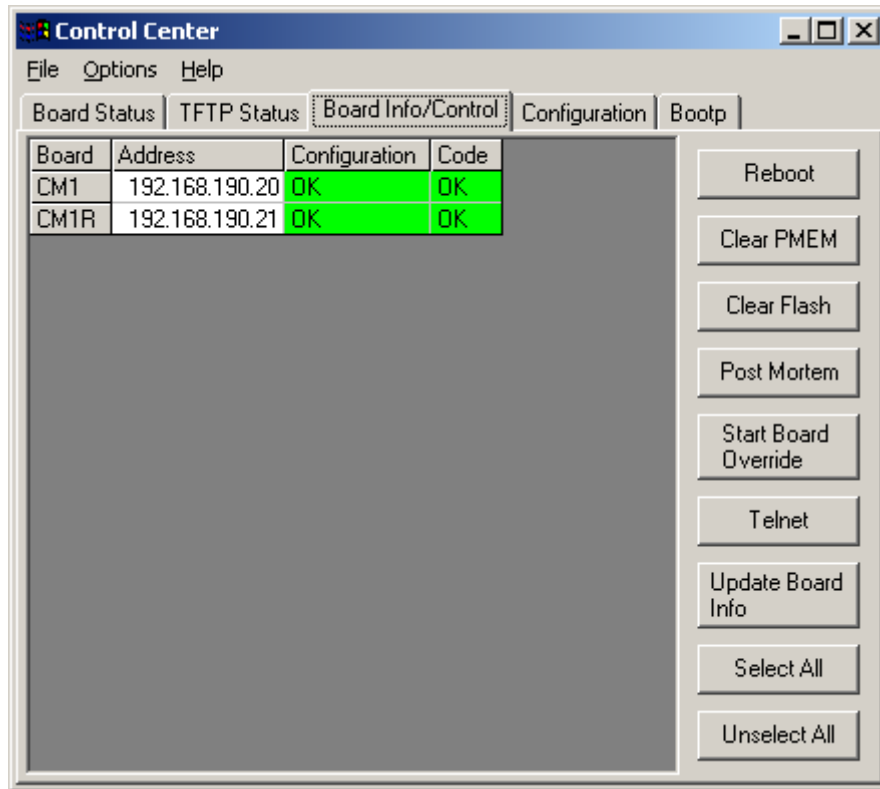

Figure 5-15.
- Once the Configuration or Code is successfully downloaded, as indicated by "Pending Reboot," the operator can, at a convenient time, select the processors either individually or by clicking "Select All" and then initiate a reboot of the processor by clicking "Reboot" (or "Clear PMEM"). The result is shown in Figure 5-15.